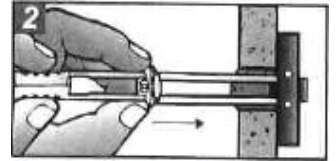

Figure 4.3.3
4.3.3 Place thumb between strap. Push thumb side to side, snapping off straps level with flange cap as shown in **Figure 4.3.3**.